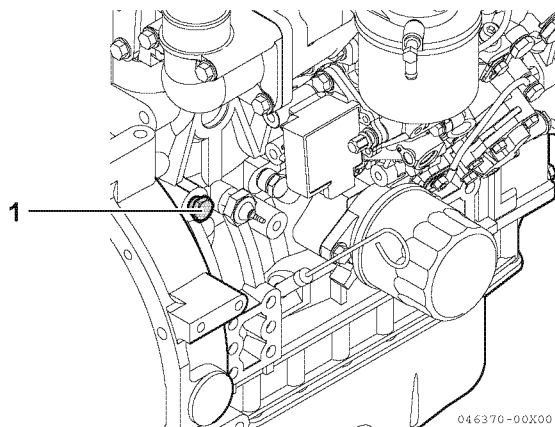

Figure 5-16
- On models not equipped with an oil cooler, remove the coolant drain plug (Figure 5-16, (1)) from the engine block.